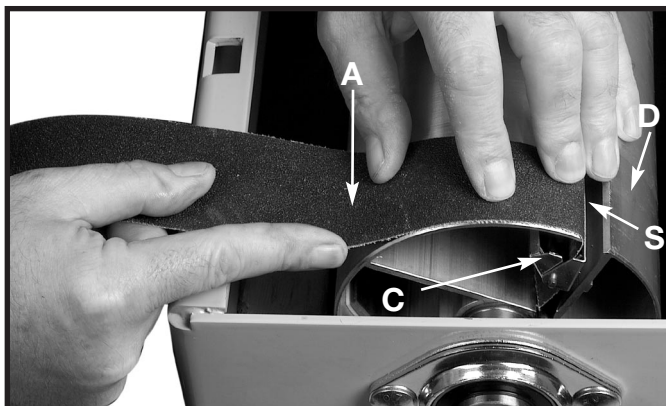

Fig. 30
4. To replace the sanding belt, press spring clip (C) Fig. 30 together and insert one end of sanding belt (A) through the slot (S) in the drum and into the spring clip (C). The taper cut end of the sanding belt must line up with the edge of the drum.